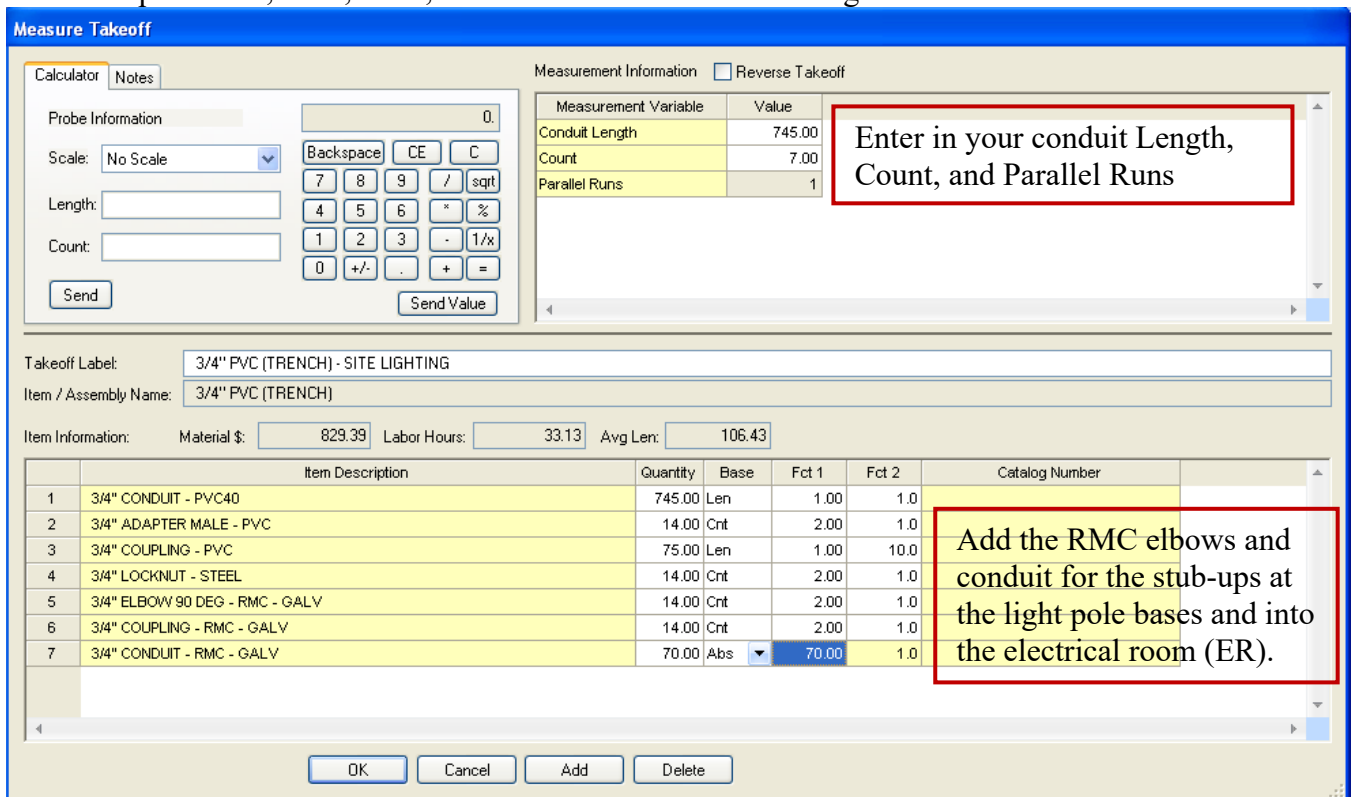

Figure 4
10. In the Measure Takeoff window enter in the Conduit Length, Count, and Parallel Runs. Edit the Item Description area, Base, Fct 1, and Fct 2 values as shown in Figure 4 and click OK.